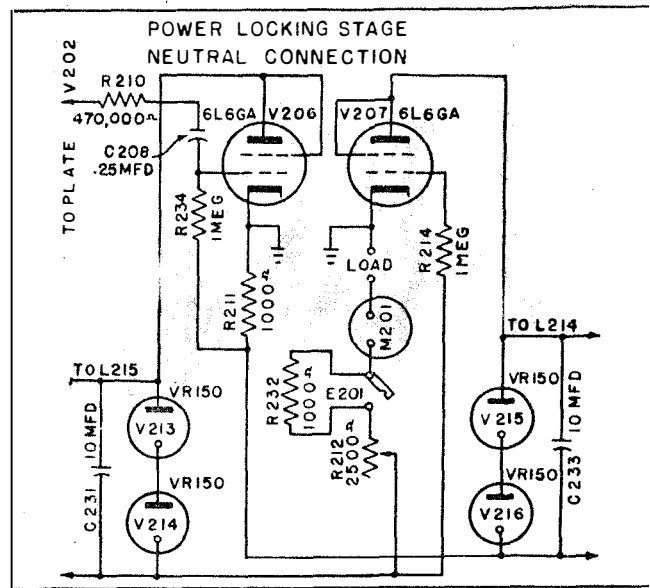

Fig. 2-9 Power Locking stage. Neutral Connection
b. NEUTRAL CONNECTION. When connected for neutral operation the circuit is switched to give the connections shown in Fig. 2-9. The action is similar except that in this case the load is removed from its previous position between the cathodes of V206 and V207 and substituted for the cathode bias resistor R213 of V207. Both cathodes are now connected together and the control rheostat R212 placed in series with the load instead of shunting it as in polar operation.